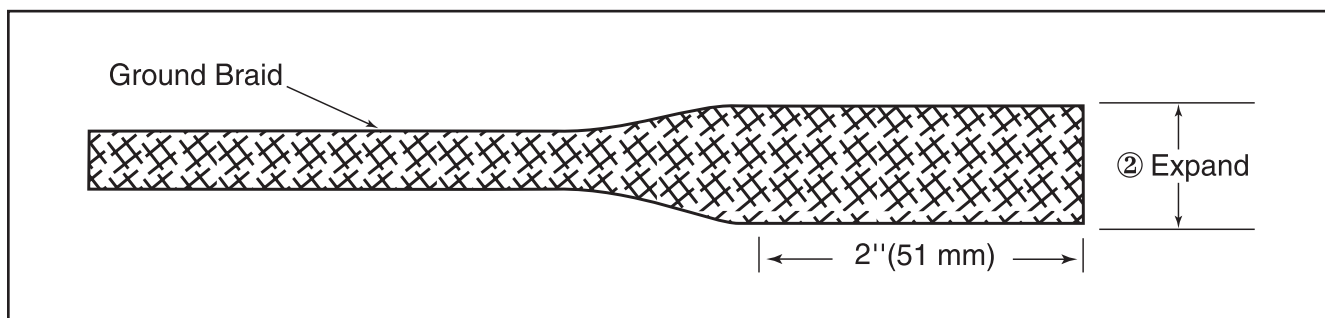

Figure 2
- 2.1 Cut supplied tinned copper grounding braid into three equal 2' (610 mm) lengths. Expand each braid end for a distance of 2" (51 mm) (② Figure 2).